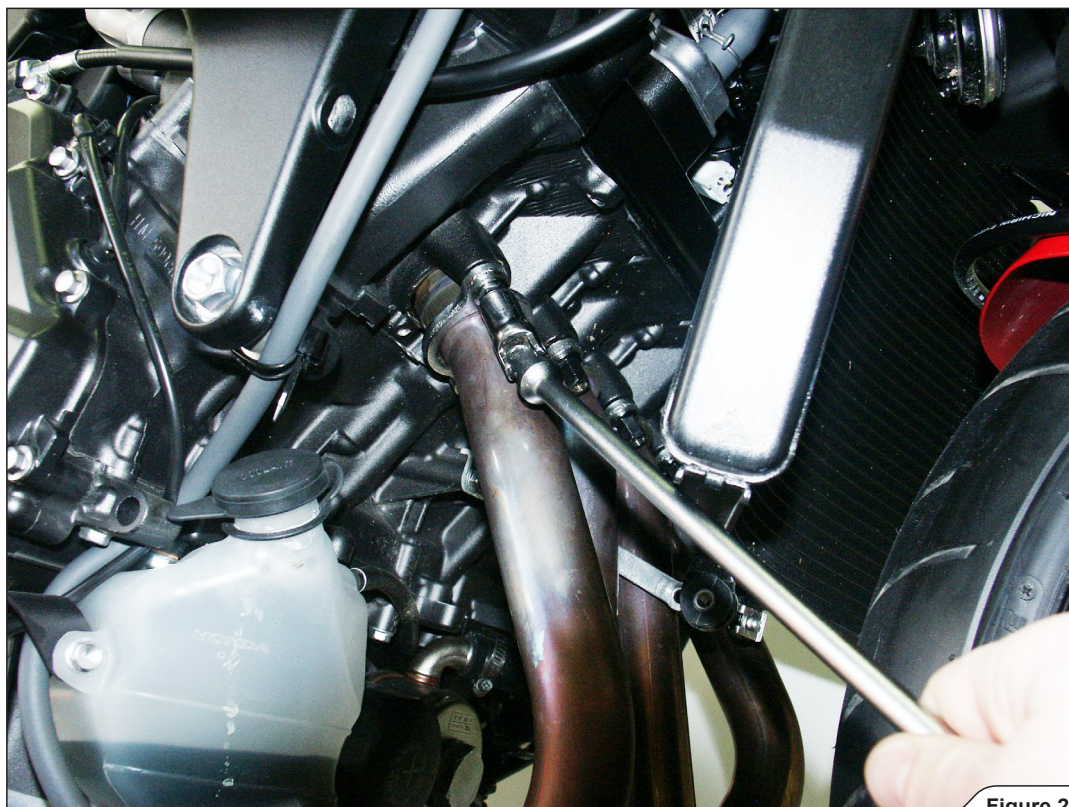

Figure 25
10. Unscrew and remove the nuts from the flanges of the header tubes; make sure not to damage the cooling fins (Figure 25).